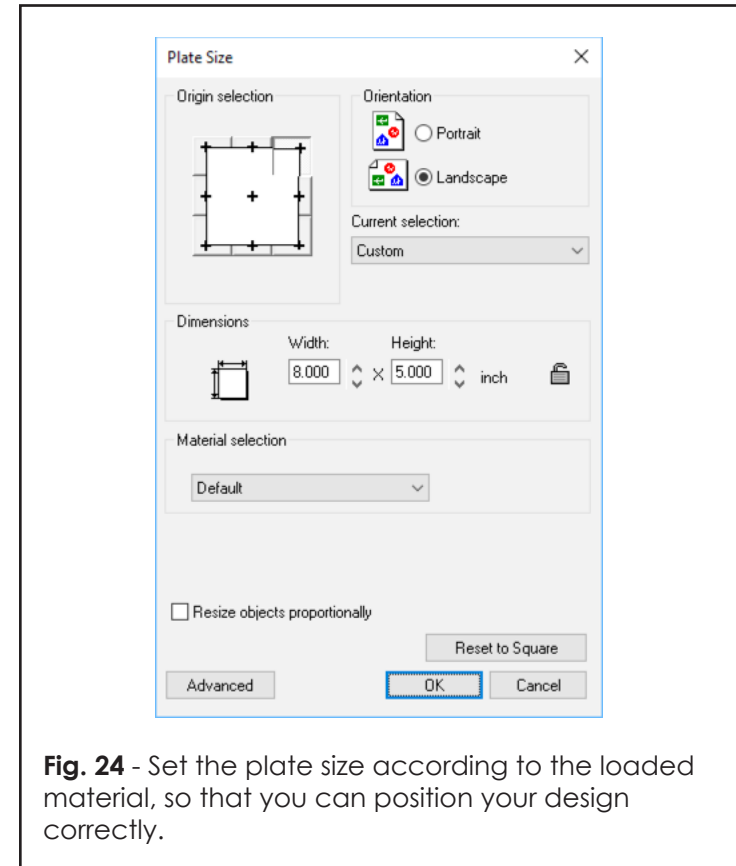

Fig. 24 - Set the plate size according to the loaded material, so that you can position your design correctly.
2. By default, the **Plate Size dialog** (Fig. 24) will query for the size of your engraving bed.